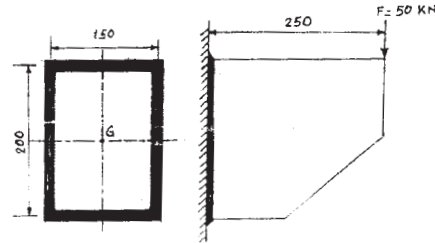

Fig.2
- b) A rectangular bar of cross - section 200 mm × 150 mm is fillet welded to a plate as shown in fig.2. Determine the size of welded joint if the permissible shear stress of the weld is 79 MPa. [12]